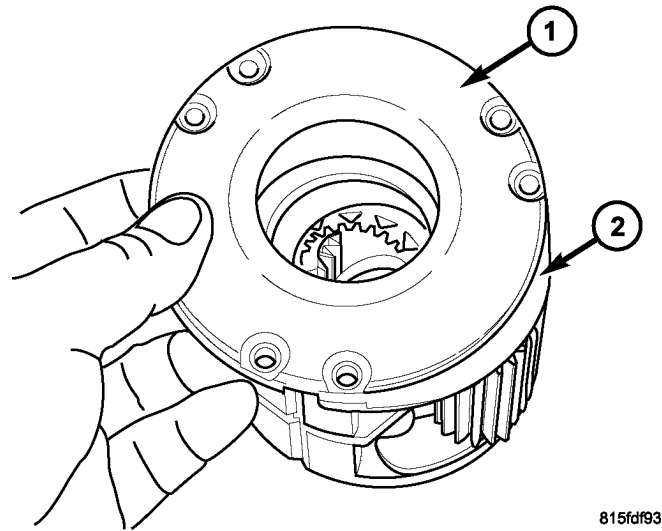

Fig. 4 REMOVE PLANETARY COVER
8. Remove the planetary cover from the planetary assembly (Fig. 4).
13. Install the new planetary cover and the old friction disc washer onto the planetary assembly (Fig. 4).